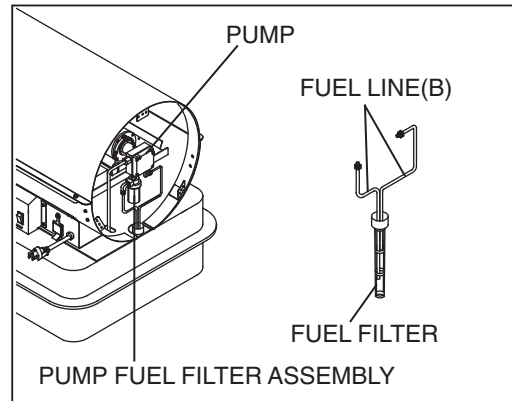

Figure 14. Remove Tank Fuel Filter
- Disconnect fuel line (B) from pump and pump fuel filter assembly with 3/8" wrench (See Figure 14)
- Connect fuel lines (B) to pump and pump fuel filter assembly.